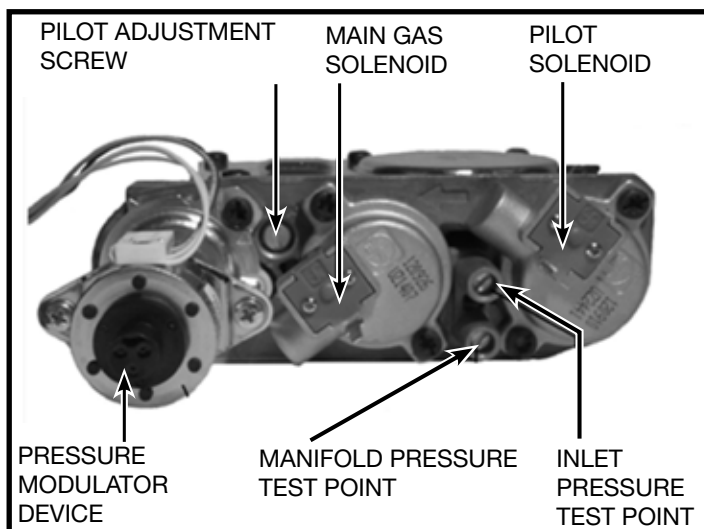

Figure 34: Gas control valve.
2. Locate the inlet and outlet test ports on the valve which can be seen in (Figure 34). After locating test ports loosen the screws within the ports using a flat-tip screwdriver.